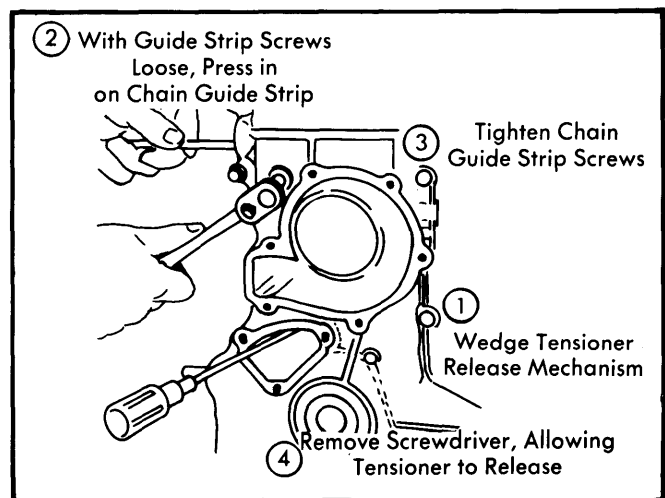

Fig. 6 Adjusting Timing Chain Tension
4) Remove valve cover. Remove distributor with plug wires. Remove timing chain tensioner cover (Fig. 6) and release chain tension. Refer to *Timing Chain Tension* in this article.